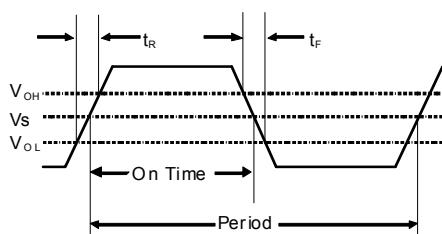
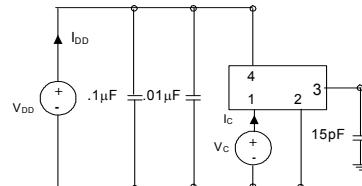

Figure 5. Output Waveform
Figure 6. Typical Output Test Conditions (25±5°C)
2. Figure 5 defines these parameters. Figure 6 illustrates the operating conditions under which parameters are tested/specify.